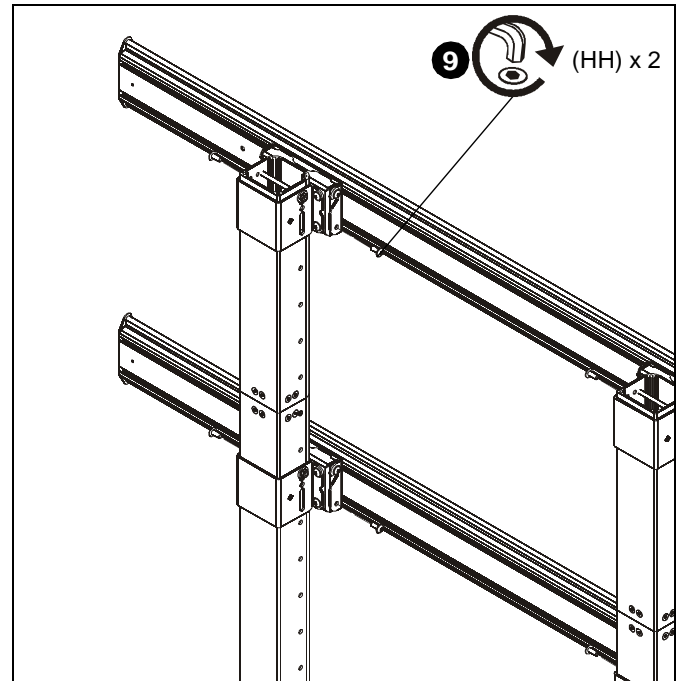

Figure 7
9. Install two 5/16-18 x 3/4" button head flange screws (HH) into the lower holes on each quick connect base (Q) to secure rails to quick connect bases. (See Figure 7)
10. Tighten all 5/16-18 x 3/4" button head flange screws (HH).